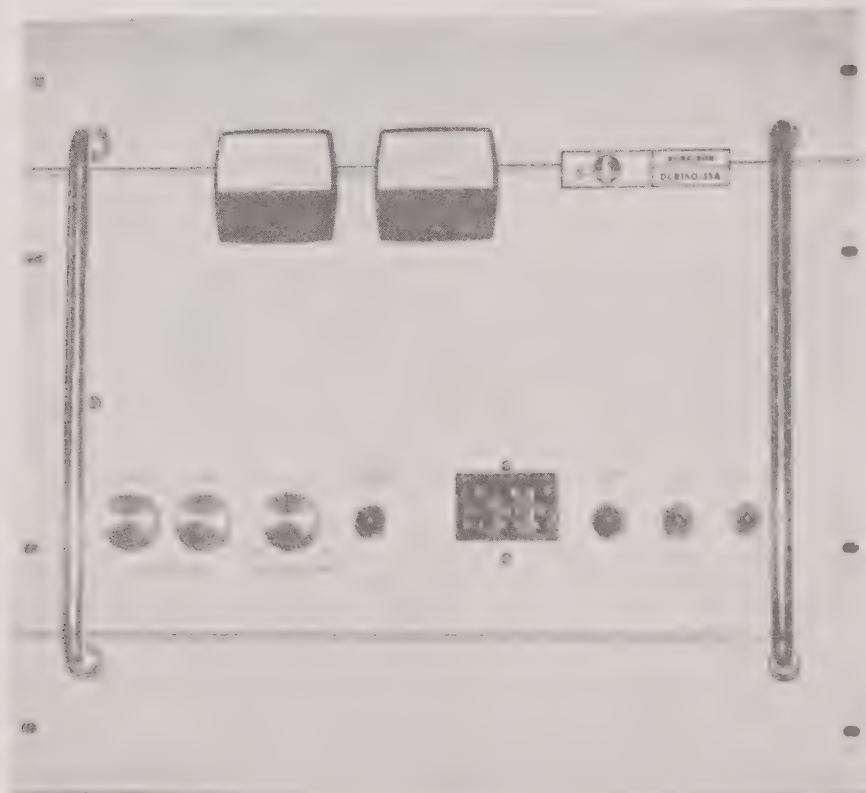

Figure 3-1. Control Panel
See Figure 3-1 for location of controls and indicators.
a brief description of their function. The physical location of the controls and indicators is shown in Figure 3-1; for schematic locations, see Figure 7-2.
a. Rotate the FINE and COARSE VOLTAGE ADJUST and CUR.ADJ.AMPS potentiometers (see Figure 3-1) fully counterclockwise.
a. Rotate the FINE and COARSE VOLTAGE ADJUST and CUR.ADJ.AMPS controls (see Figure 3-1) fully counterclockwise.